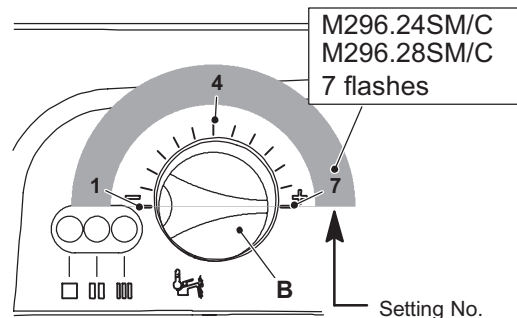

Figure 10.11
At this step it is possible to visualize the current setting by keeping the reset button D pressed for more than 5 seconds. The lamps F will flash a number of times corresponding to the setting Figure 10.11 (once for M296.24SM/C and M296.28SM/C).
- 12 To change the setting turn the knob B on a position corresponding to the boiler model (Figure 10.11). By turning the knob B, the lock-out signal lamp E blinks quickly (2 per seconds) indicating that the setting has changed and must be memorised.